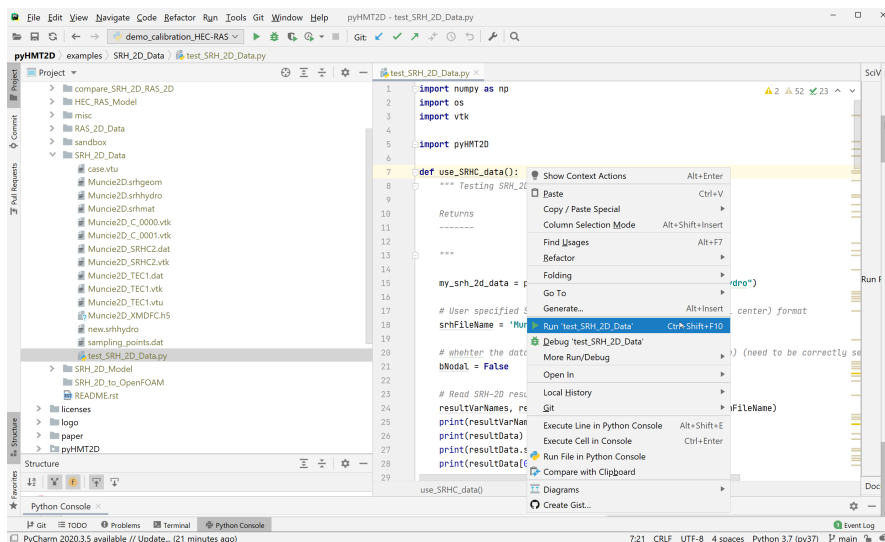

Figure 2.4 Run *pyHMT2D* code in PyCharm.
- In the Python code editor window, right click and select “Run ...” (see Figure 2.4).